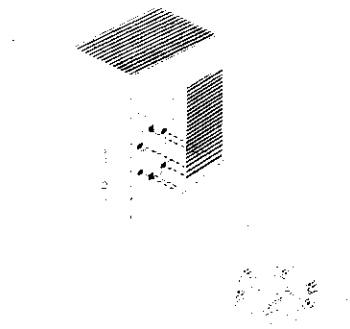

Figure 3 Installing and Removing the Swivel Base
- Carefully turn the monitor on its side or upside down.(see figure 3)